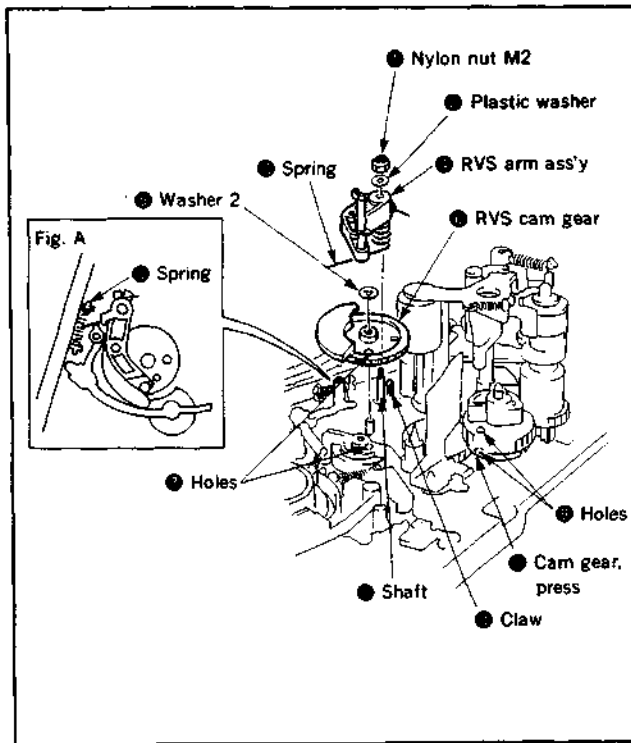

Fig. 3-14.
3-8. RVS ARM ASS'Y AND RVS CAM GEAR (Fig. 3-14)
- 1) Remove the reel lock release ass'y. (Refer to Fig. 3-14.)
- 2) Disengage the three claws marked ① and the claw marked ②, then remove the tension regulator band ass'y ③.
- 3) Unhook the end of the spring ④ from the chassis.
- 4) Disengage the claw ⑤, then pull out the tension regulator arm ass'y ⑥.